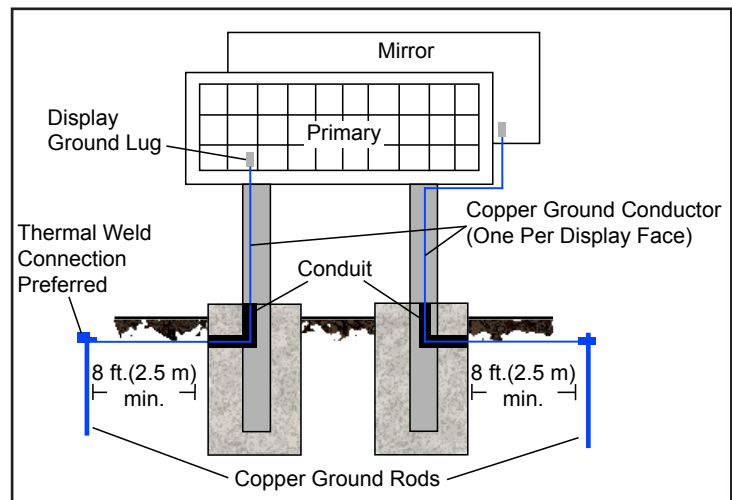

Figure 11: Proper Display Grounding
1. Install an earth-ground electrode (ground rod, ground plate, etc.) near the base of the display. Refer to **Figure 11** for guidelines.